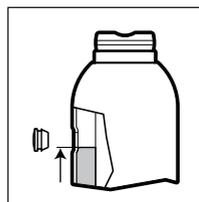
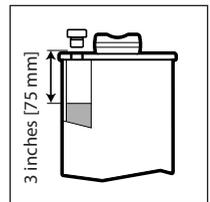

Fig. 5 - Oil Level, all models except GBJ100
Fig. 6 - Oil Level, Model GBJ100 only
3. All models except GBJ100: Fill until oil level is even with bottom edge of the oil fill hole. See Fig. 5.
4. Model GBJ100 only: Fill until oil level is about 3 inches [75 mm] below the oil fill hole. See Fig. 6.
**DO NOT OVERFILL!** With ram fully retracted and jack in upright position, oil level should not be higher than shown in Fig. 5 or Fig. 6 (as applicable for your jack model).